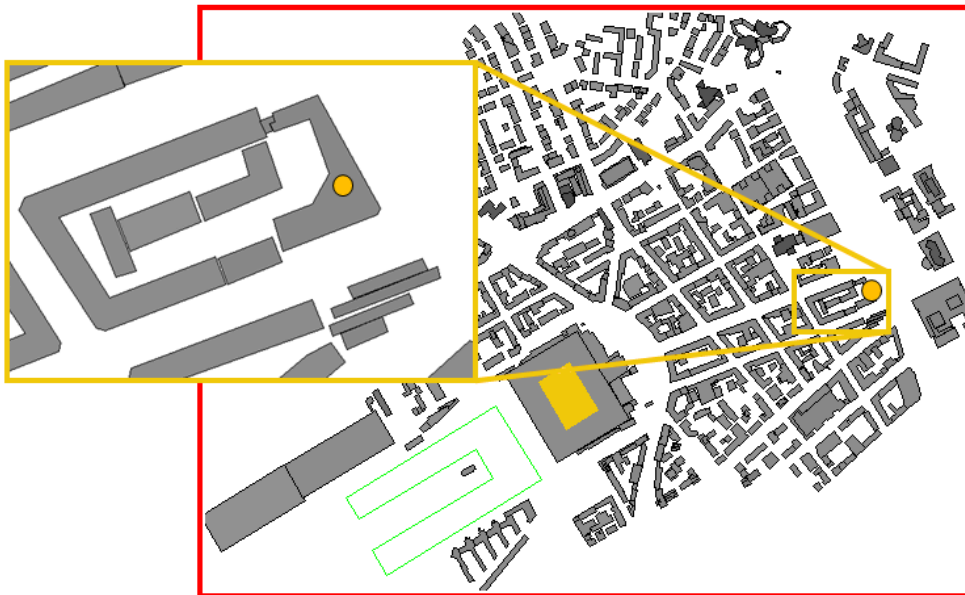

Figure 122: Place the second antenna site at the location of the orange dot.
4. Click near the point (indicated by an orange circle) in Figure 122.